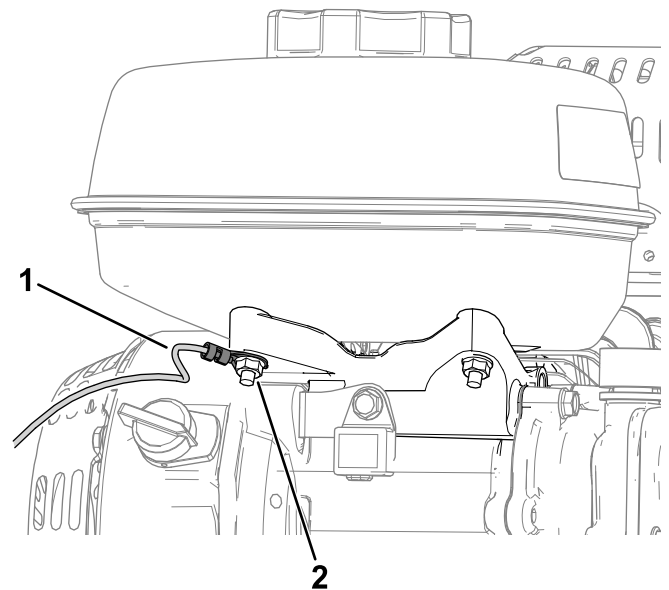

Figure 3
- Connect the ground wire (terminal ring) to engine with an existing nut under the fuel tank (Figure 3).